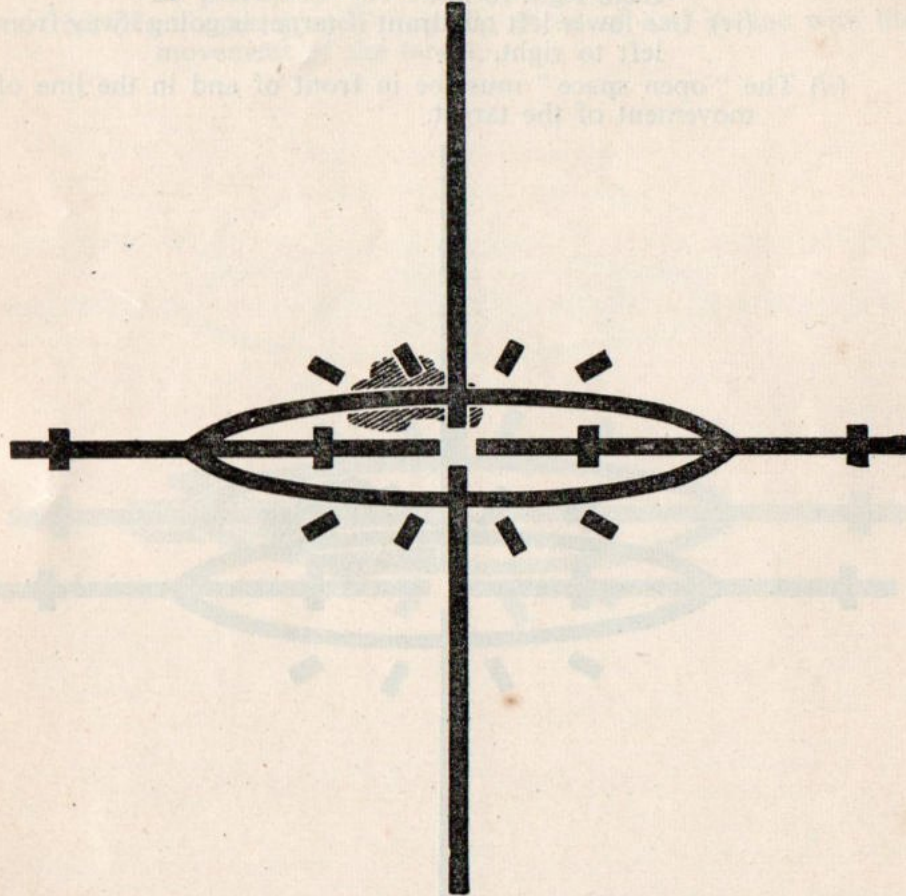

Fig 14.—Correct aim—oblique crosser—less than 45 degrees—20 mph
25. *Oblique crossers at angles other than 45 degrees.* Explain, using diagrams (see Figs 14 and 15).—The method of aiming is the same as for 45 degrees crossers, except that:—